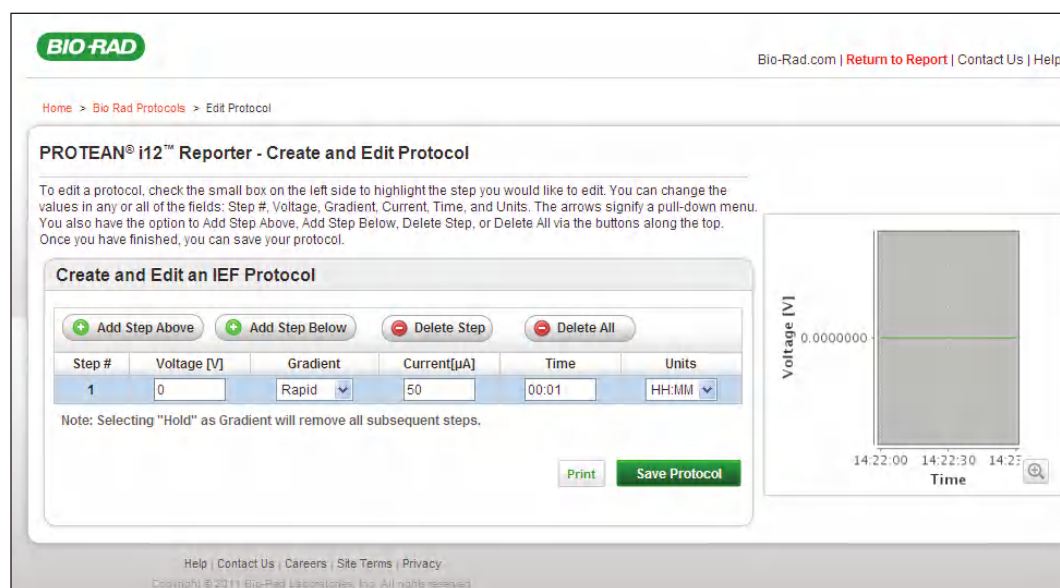

Fig. 6.4. PROTEAN i12 Reporter Create and Edit Protocol screen.
- Click **Create New Protocol** to open the Create and Edit an IEF protocol screen (Figure 6.4). Use the options to set the voltage, gradient, and time parameters and create a protocol of up to ten steps